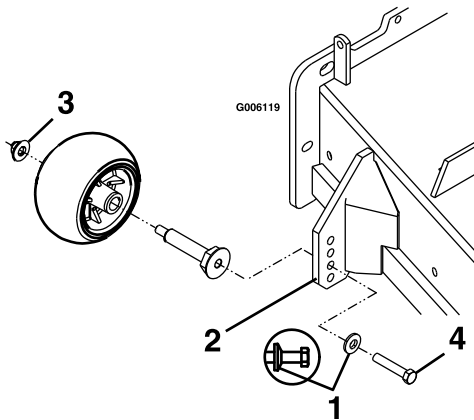

Figure 18
7. For LZZ-LP Units: Be sure the roller bolts are installed with the spring disc washer between the head of the bolt and the mounting bracket (Figure 18).
Torque the 3/8–24 x 2 Gr 8 hex capscrew to 50–55 ft-lb (68–75 N-m) (Figure 18).